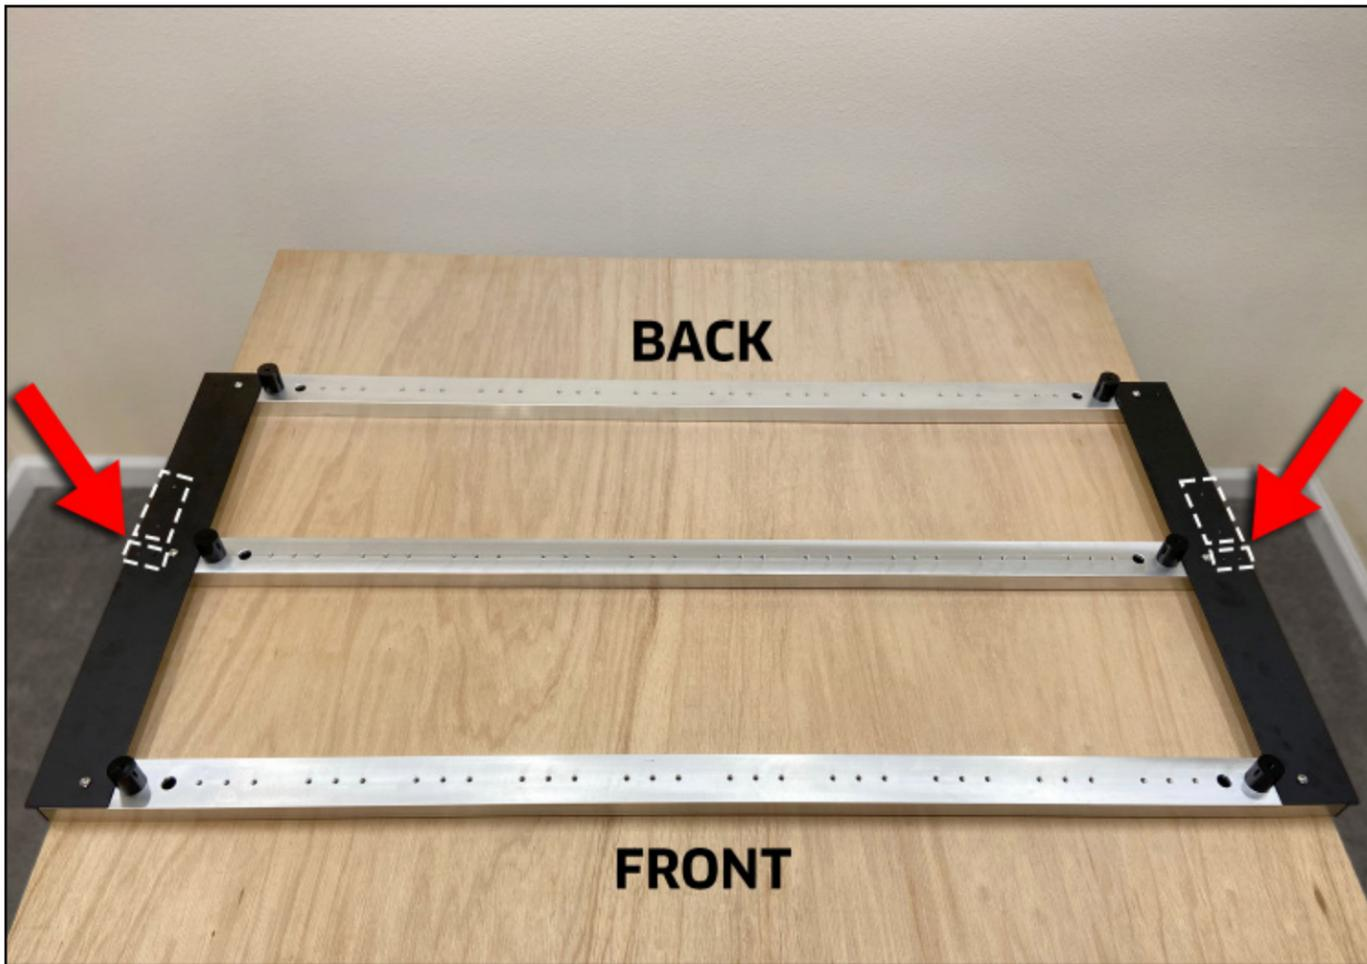

Figure 1-2
1. Position the three (3) crossmembers horizontally across your table. *See Fig. 1-2.*
3. Position the two (2) support panels, front to back, across the outside edges of the three crossmembers. *See Figs. 1-2 and 1-3.*
1. Use a 4mm hex key and six (6) M6×6mm BHCS to loosely attach the support panels to the crossmembers. *See Figs. 1-2 and 1-3.*